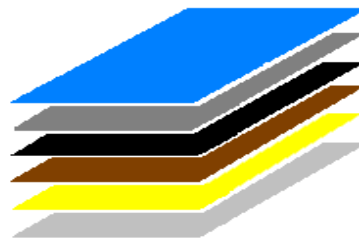

Figure 2
2. Double sided Antiglare Foils in Figure 2